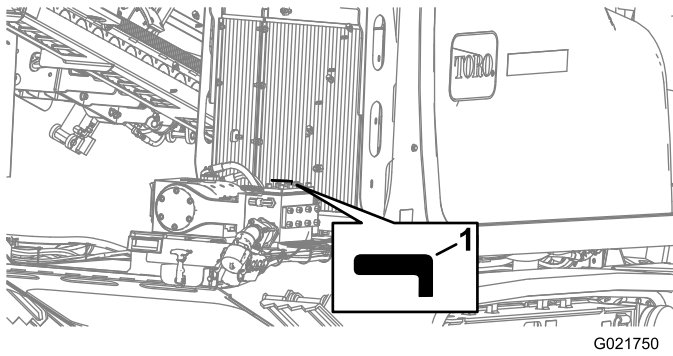

Figure 118
4. Turn the drilling-fluid valve clockwise to the OFF position (Figure 118).